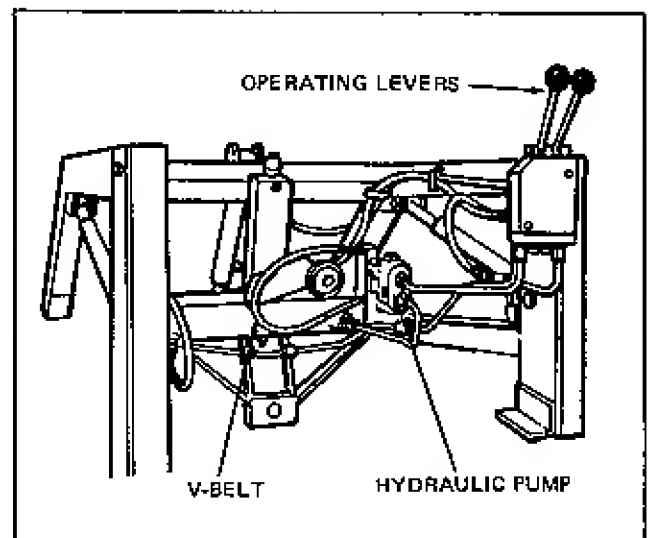

Figure 7.
9. Install V-Belt on hydraulic pump. See Figure 7.
10. Attach hydraulic control valve operating levers as shown in Figure 7 using the capscrow and locknut provided.